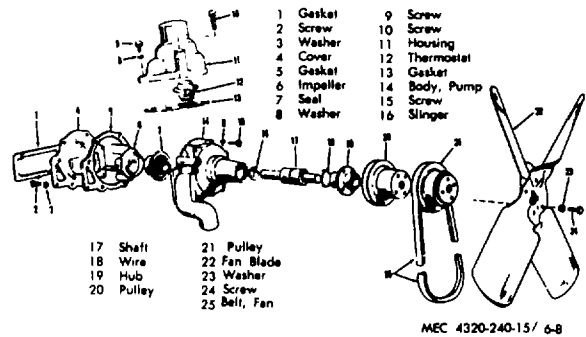

Figure 6-8. Water pump - exploded view.
c. Disassembly. Refer to figure 6-8 and disassemble the water pump.
- (1) Clean all parts with an approved cleaning solvent; dry with clean compressed air.
- (2) Inspect the seal for defects; inspect the seal spring for deformation or loss of tension, Replace seal if any part is defective.
(3) Inspect all parts for cracks, breaks, wear, stripped threads, or other damage; replace if damaged.
e. *Assembly.* Refer to figure 6-8 and assemble the water pump.